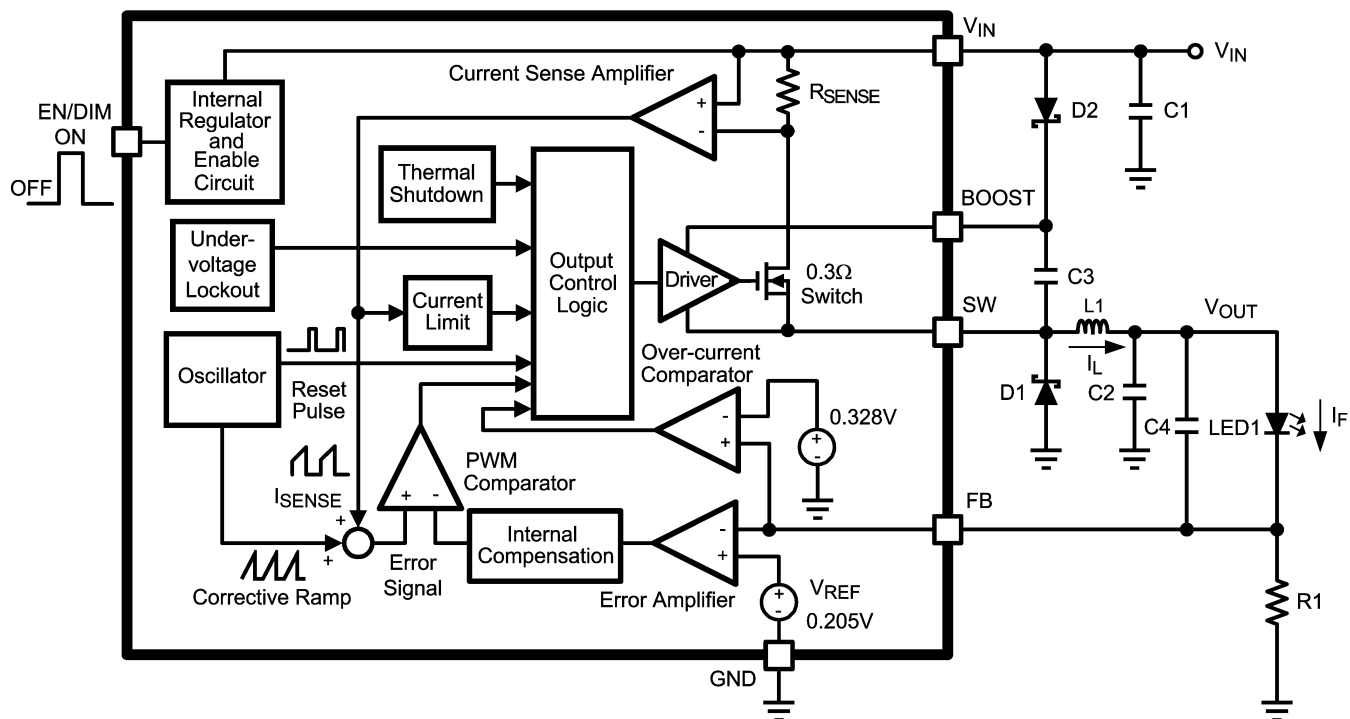
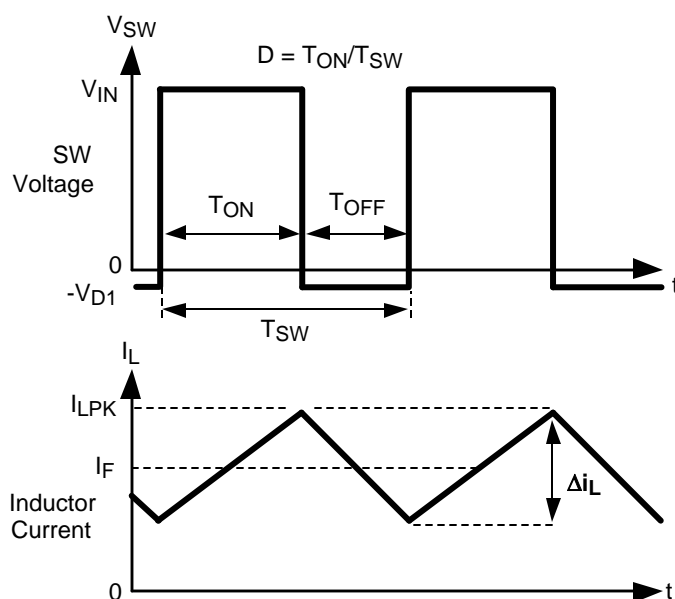

Figure 13. Simplified Block Diagram
Figure 14. SW Pin Voltage and Inductor Current Waveforms of LM3405A
The following description of operation of the LM3405A will refer to the Simplified Block Diagram (Figure 13) and to the waveforms in Figure 14. The LM3405A supplies a regulated output current by switching the internal NMOS power switch at constant frequency and variable duty cycle. A switching cycle begins at the falling edge of the reset pulse generated by the internal oscillator. When this pulse goes low, the output control logic turns on the internal NMOS power switch. During this on-time, the SW pin voltage (V_{SW}) swings up to approximately V_{IN} , and the inductor current (I_L) increases with a linear slope. I_L is measured by the current sense amplifier, which generates an output proportional to the switch current. The sense signal is summed with the regulator's corrective ramp and compared to the error amplifier's output, which is proportional to the difference between the feedback voltage and V_{REF} . When the PWM comparator output goes high, the internal power switch turns off until the next switching cycle begins. During the switch off-time, inductor current discharges through the catch diode D1, which forces the SW pin to swing below ground by the forward voltage (V_{D1}) of the catch diode. The regulator loop adjusts the duty cycle (D) to maintain a constant output current (I_F) through the LED, by forcing FB pin voltage to be equal to V_{REF} (0.205V).
Capacitor C3 and diode D2 in Figure 13 are used to generate a voltage V_{BOOST} . The voltage across C3, $V_{\text{BOOST}} - V_{\text{SW}}$, is the gate drive voltage to the internal NMOS power switch. To properly drive the internal NMOS switch during its on-time, V_{BOOST} needs to be at least 2.5V greater than V_{SW} . A large value of $V_{\text{BOOST}} - V_{\text{SW}}$ is recommended to achieve better efficiency by minimizing both the internal switch ON resistance ($R_{\text{DS(ON)}}$), and the switch rise and fall times. However, $V_{\text{BOOST}} - V_{\text{SW}}$ should not exceed the maximum operating limit of 5.5V.
The first method is shown in the Simplified Block Diagram of Figure 13. Capacitor C3 is charged via diode D2 by V_{IN} . During a normal switching cycle, when the internal NMOS power switch is off (T_{OFF}) (refer to Figure 14), V_{BOOST} equals V_{IN} minus the forward voltage of D2 (V_{D2}), during which the current in the inductor ($L1$) forward biases the catch diode D1 (V_{D1}). Therefore the gate drive voltage stored across C3 is:
The inductor value determines the output ripple current (Δi_L , as defined in Figure 14). Lower inductor values decrease the size of the inductor, but increases the output ripple current. An increase in the inductor value will decrease the output ripple current. The ratio of ripple current to LED current is optimized when it is set between 0.3 and 0.4 at 1A LED current. This ratio r is defined as: